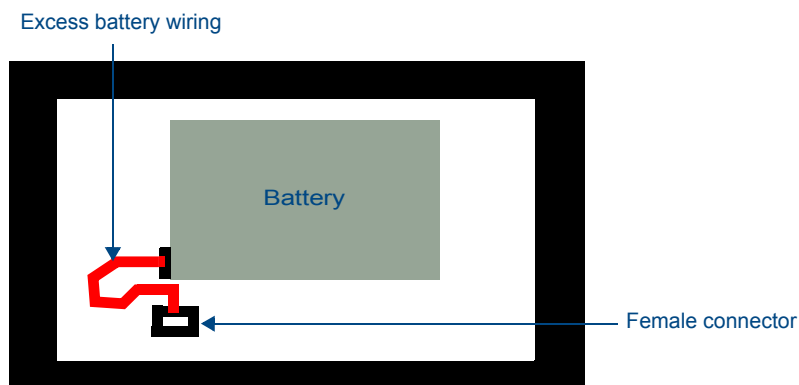

FIG. 90 Battery installation and connection diagram
4. Disconnect and remove the old battery from the female connector (FIG. 90).
6. Install the new battery, making sure that the label faces outward and the battery connector wiring runs to the left (FIG. 90). Make sure that the excess battery wiring fits in the space to the bottom left of the battery.